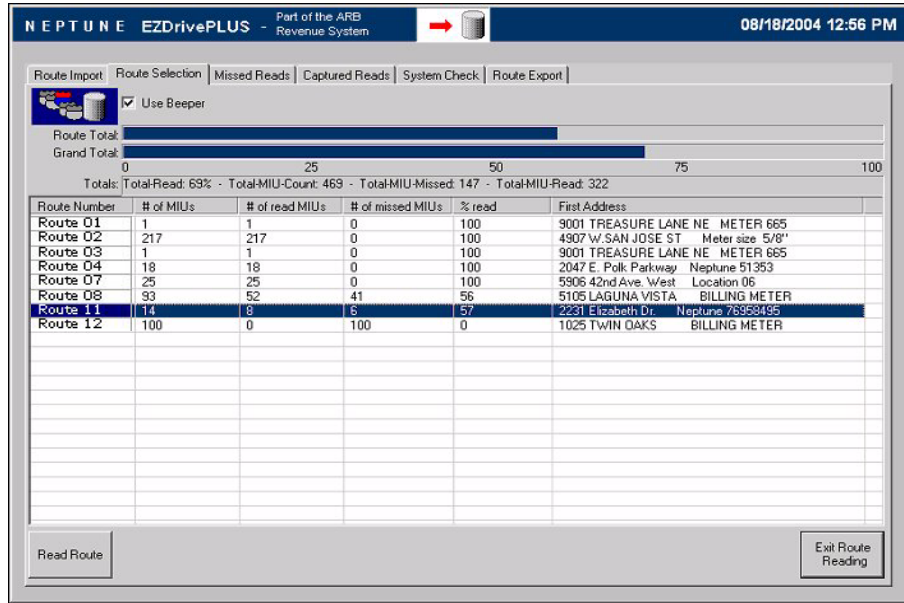

Figure 4.3 Route Selection Screen
- 1 Access the Route Selection screen, shown in Figure 4.3, by pressing the **Route Selection** tab.